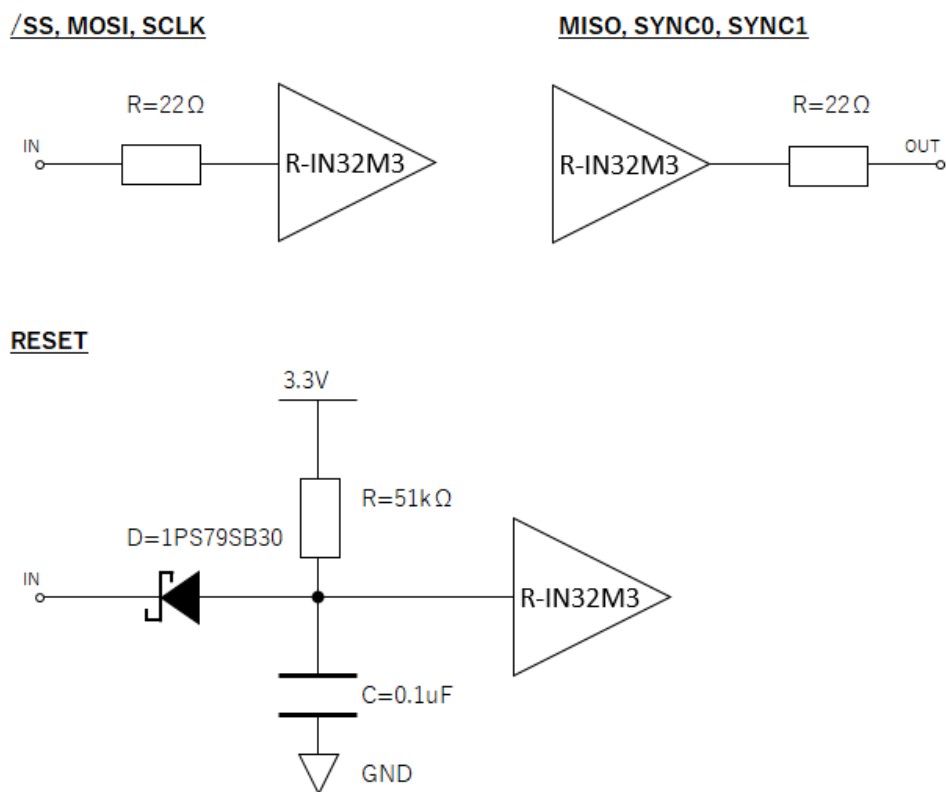

Figure 2.3 R-IN32M3 Module Internal Circuits
**Figure 2.3** shows the internal circuits of the R-IN32M3 Module. The rest pin has a built-in pull-up resistor, so there is no need to place an external pull-up resistor.